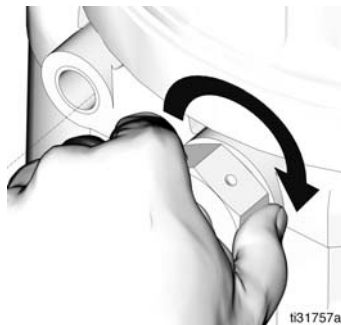

FIG. 7
2. Slide pump element (11) into pump. Be careful not to cross-thread the pump element during installation.
3. Hand tighten pump element (11) (FIG. 7). Then torque to 50 in.-lbs (5.6 N•m).